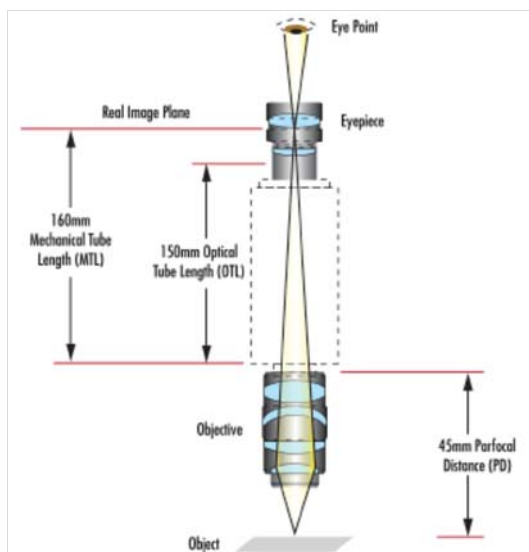
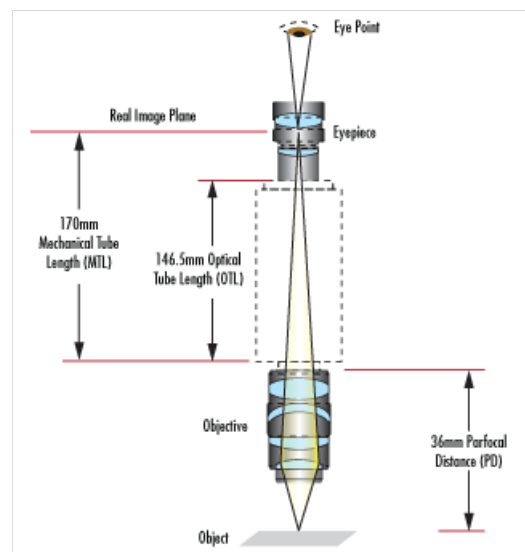

Figure 8: DIN Standard [View Larger Image]
Figure 9: JIS Standard [View Larger Image]
If the objective follows a simple microscope standard (such as DIN or JIS) then it is listed on the body to show what required specifications must be present within the system. Most compound microscopes employ the Deutsche Industrie Norm, or DIN, standard. The DIN standard has a 160mm distance from the objective flange to the eyepiece flange (Figure 8). The other available standard is the Japanese Industrial Standard, or JIS. The JIS standard has a 170mm distance from objective flange to eyepiece flange (Figure 9). Paying attention to these two distances is necessary when choosing the proper objective and eyepiece in order to make sure that the image projected from the former is properly imaged through the latter. Though the image distances are different for DIN and JIS, there is no difference in optical performance; they are equal in quality. Similarly, each standard utilizes the same RMS mounting thread of 0.7965" x 36TPI.
DIN and JIS have historically been used when considering a classic compound microscope. Some microscope manufacturers prefer to list the tube lens length by the optical properties instead of the mechanical. For a DIN standard objective, this changes the tube lens length to 150mm because the eyepiece is imaging the intermediate image plane (Figure 8). Lastly, there is a dimension typically listed for objectives to allow the user to consistently know what length it is: the parfocal distance (PD). The parfocal distance is the distance from the flange of the objective to the object under inspection. For DIN objectives this distance is a standard 45mm and for JIS is it 36mm (Figures 8 and 9).